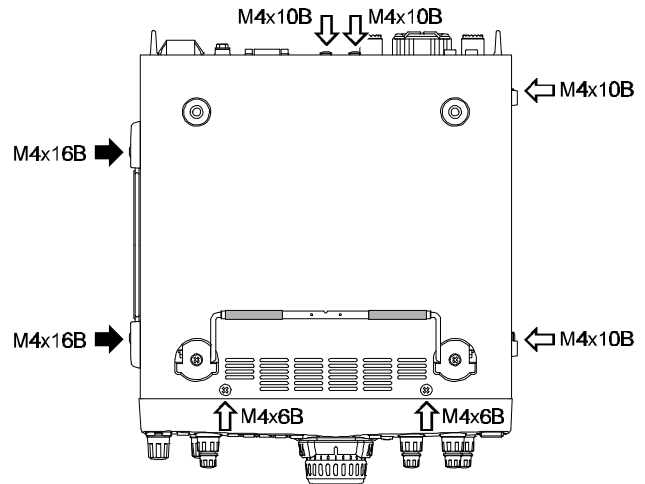

Figure 3
- ① Remove the two screws in the carrying handle and the six screws affixing the covers (see Figure 3).